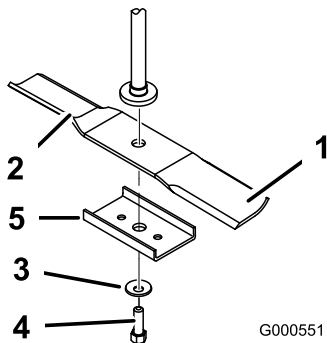

Figure 36
Hold the blade end using a rag or thickly-padded glove. Remove the blade bolt, curved washer, blade stiffener, and blade from the spindle shaft (Figure 36).
1. Install the blade onto the spindle shaft (Figure 36).
2. Install the blade stiffener, the curved washer (cupped side toward the blade) and the blade bolt (Figure 36).